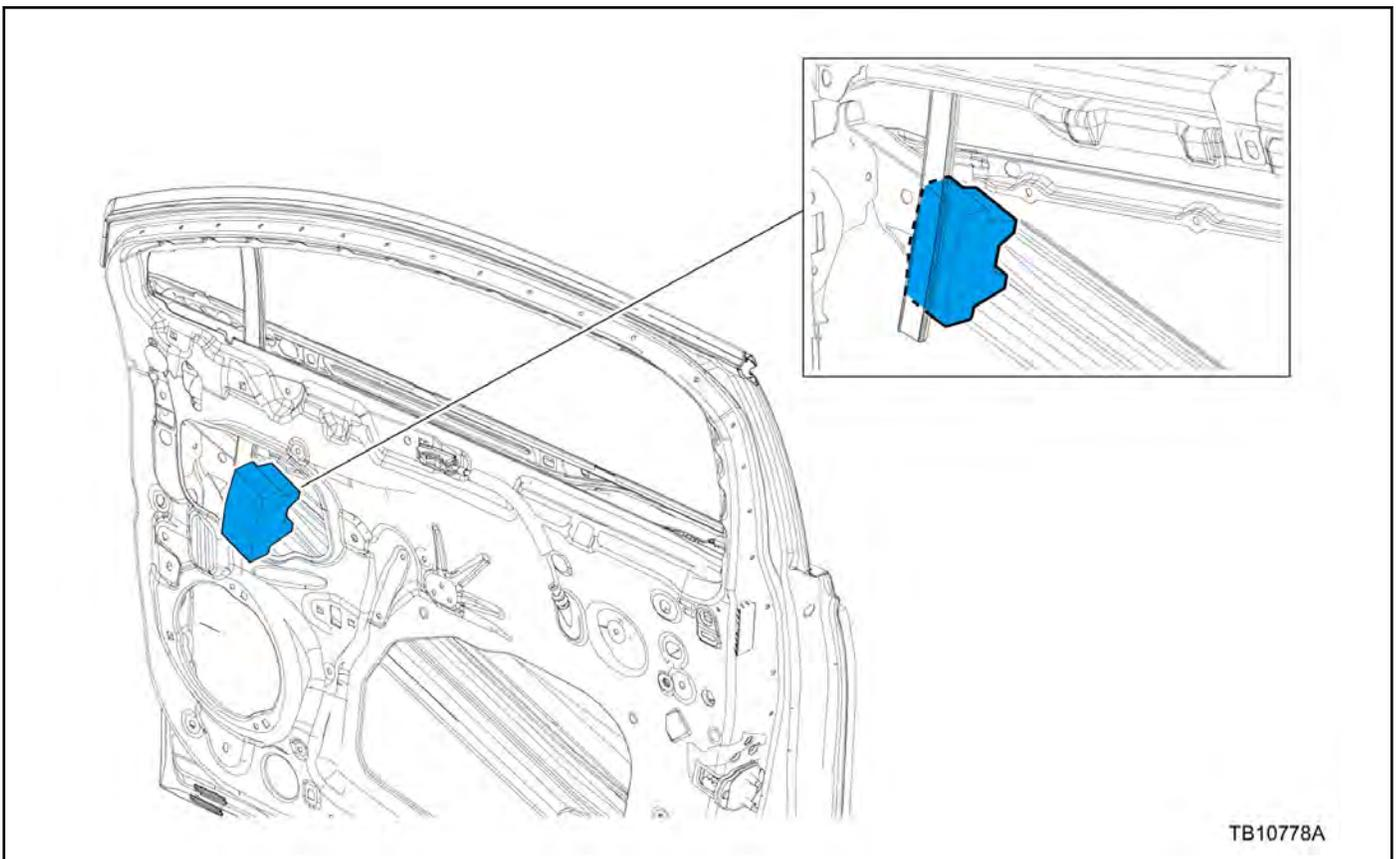

Figure 1 - Article 15-0167
2. Is the front window fixed glass division bar window run channel foam block support present? (Figure 1)
6. Install a foam block between the door cross brace and the front window fixed glass division bar/window run channel. (Figure 1)